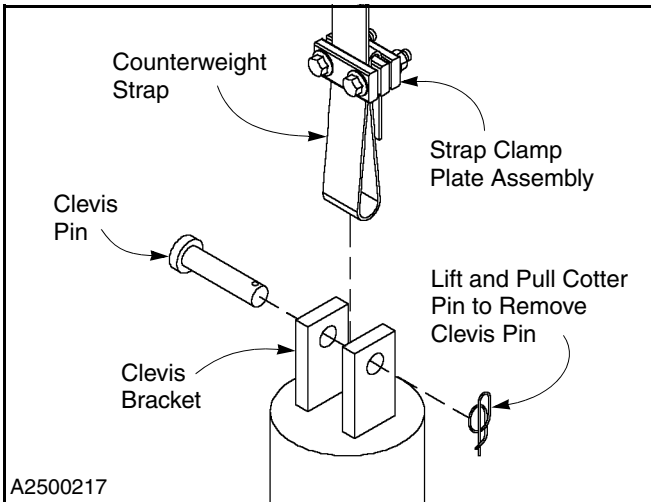

Figure 79
5. Release the yellow counterweight strap from the counterweight by removing the clevis pin. (See Figure 79.)